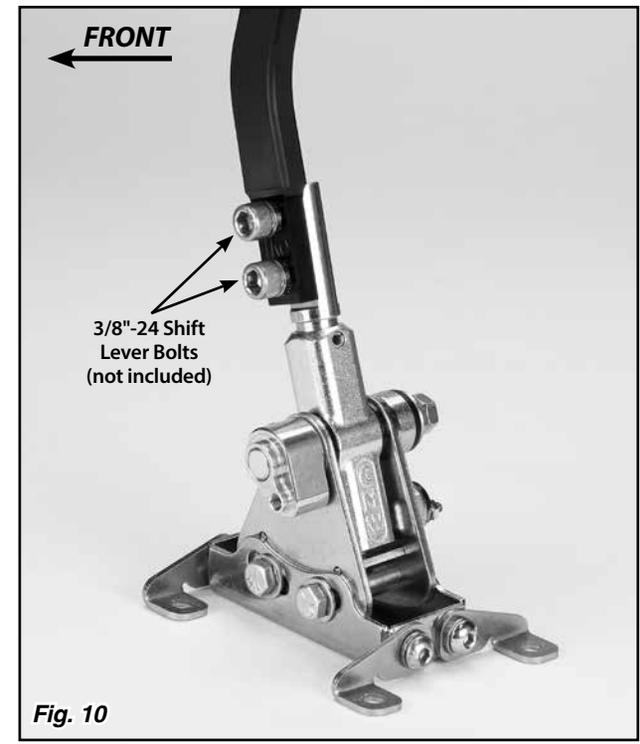

Fig. 10
Step 12: Install the Shifter Lever (not included) using the 3/8"-24 bolts that came with the shifter lever. **Fig. 10**